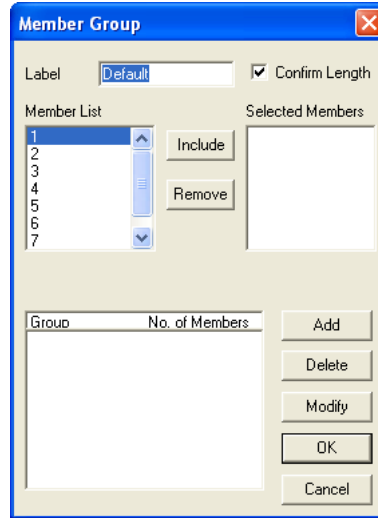

Figure 3-30 Member Group dialog box
- From the **Process** menu, select **Member Group**. The dialog box of Figure 3-30 appears.